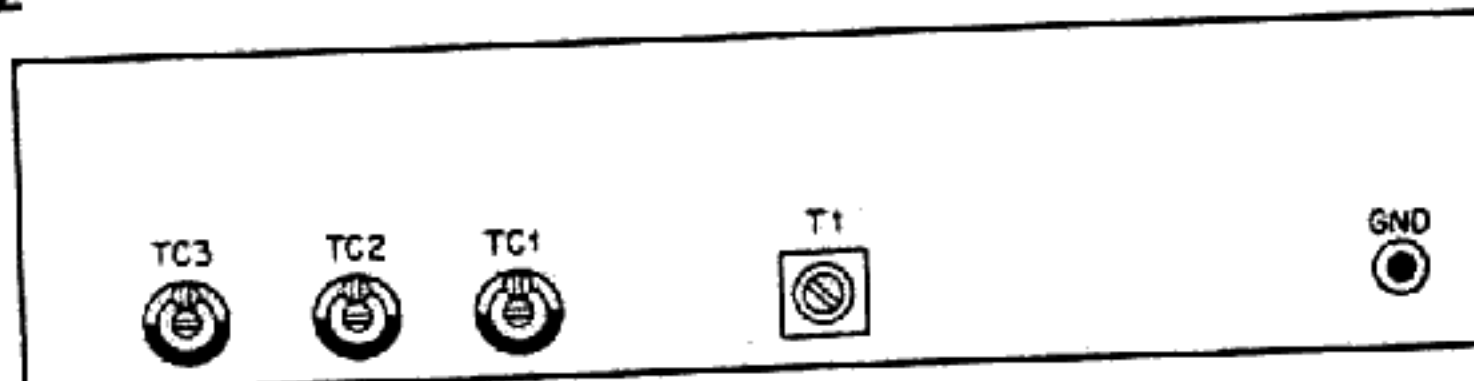
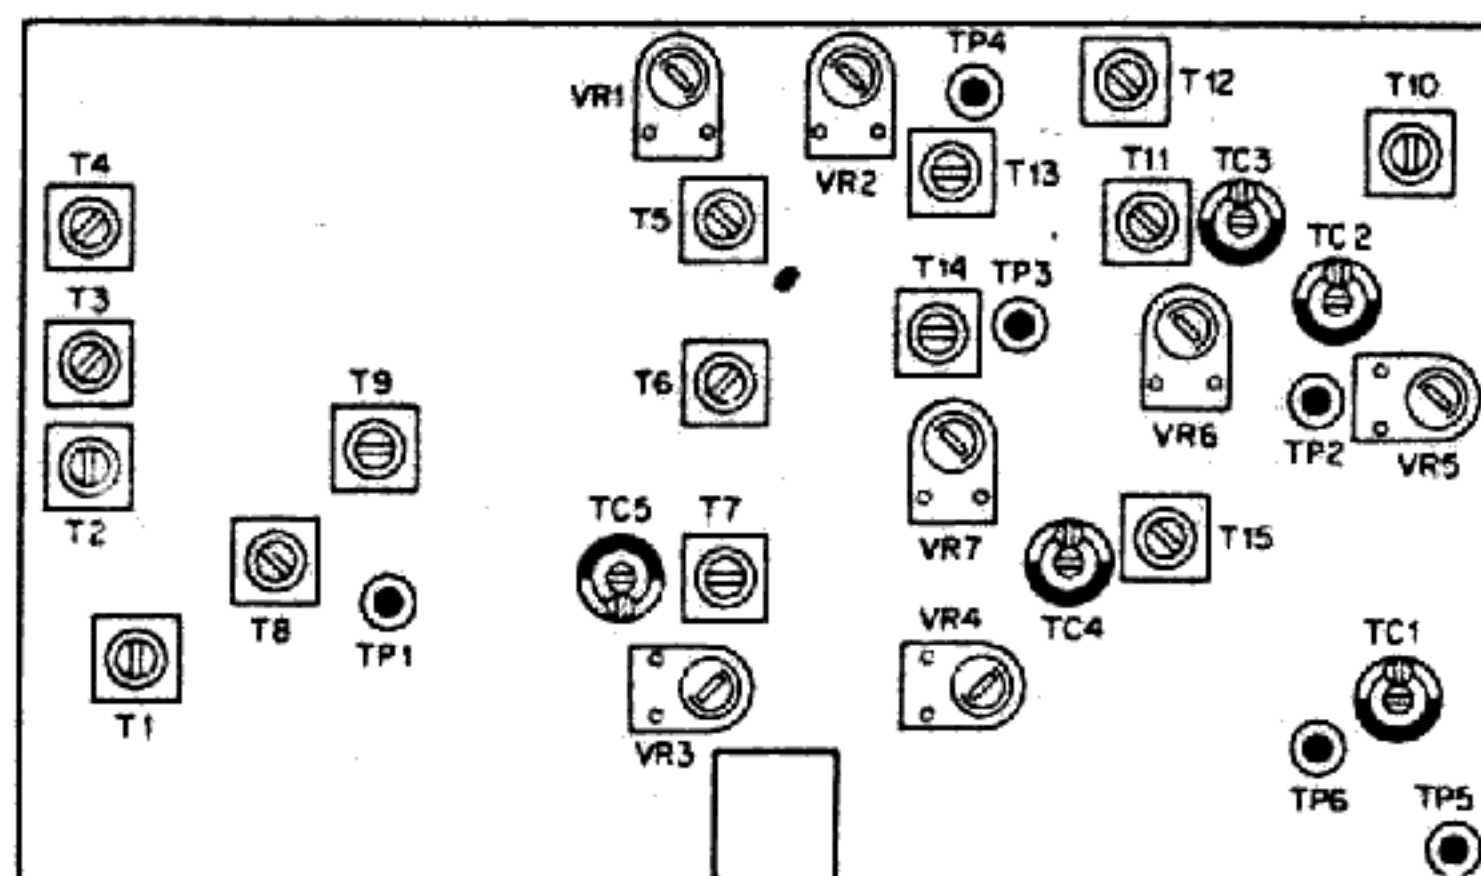
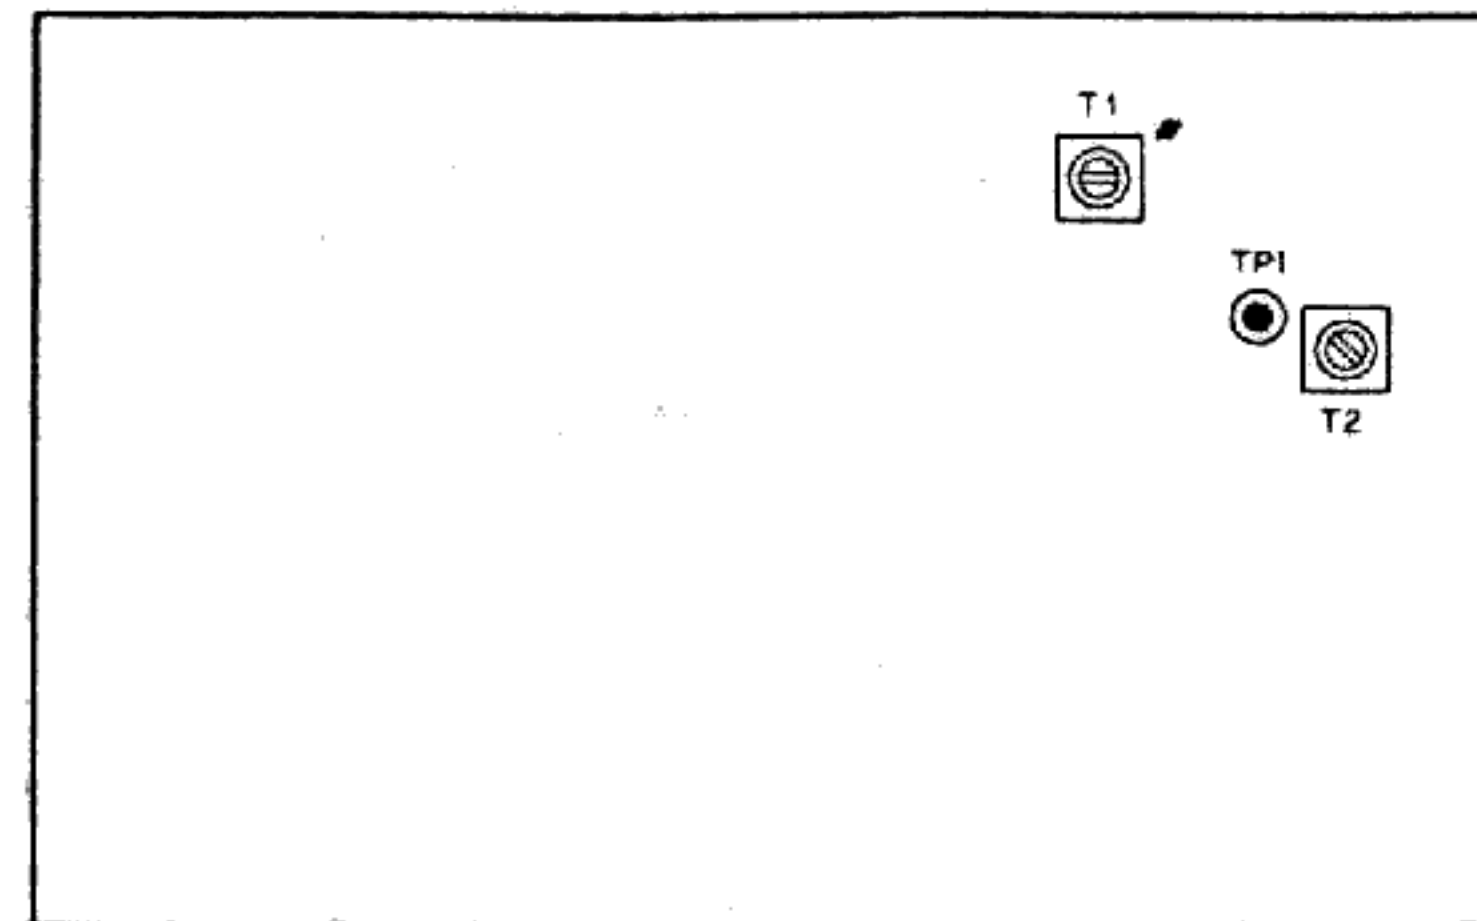

Fig. 21 CAR unit
Fig. 24 IF unit
Fig. 25 RF unit
- 1) Connect RF VTVM to TP5 in IF unit (X48-1150-00) and adjust oscillation coil T1 in CAR-1 unit (X50-1310-00) until the meter reads 50mV (refer to Fig. 21). (refer to Fig. 24 IF unit)
- 2) Adjust T1 to T7 in IF unit (X48-1150-00) and T2 in RF unit (X44-1150-00) until S meter reads maximum value (refer to Fig. 24 and Fig. 25).
- 2) Turn the RF GAIN knob fully counterclockwise and adjust VR3 and TC5 in IF unit (X48-1150-00) alternately until the output becomes minimum (refer to Fig. 24).
- 1) After receiving marker signal and turning ON NB switch, adjust T8 and T9 until the terminal voltage at TP1 on IF unit (X48-1150-00) becomes minimum (refer to Fig. 24).
- 1) After adjusting each section until sensitivity becomes minimum, adjust VR1 in IF unit (X48-1150-00) under no signal condition, thus making zero point adjustment of S meter (refer to Fig. 24).
- 1) Connect RF VTVM to TP6 in IF unit (X48-1150-00) and adjust TC1 in IF unit for 0.1V (refer to Fig. 24).